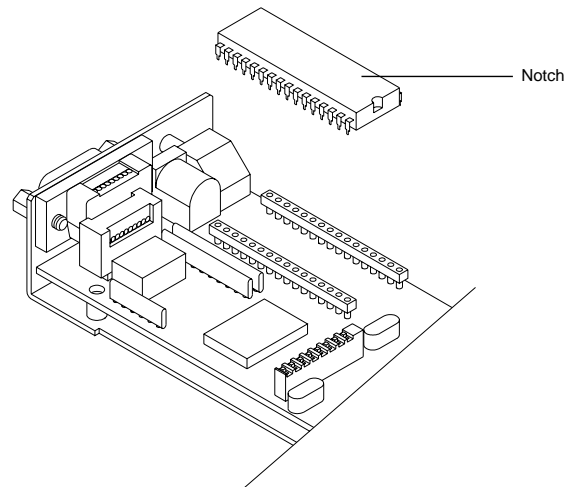

Figure 2
5. Locate the EPROM. It is the chip with the white label on it. The label starts with "(C) SDE".
7. Install the new firmware EPROM, making sure that the notch in the EPROM points away from the panel with the twinax/coax connector and the rotary switch (see figure 2). The EPROM will only function if installed in this manner. Make certain all legs on the EPROM are inserted into the appropriate hole in the socket connector.